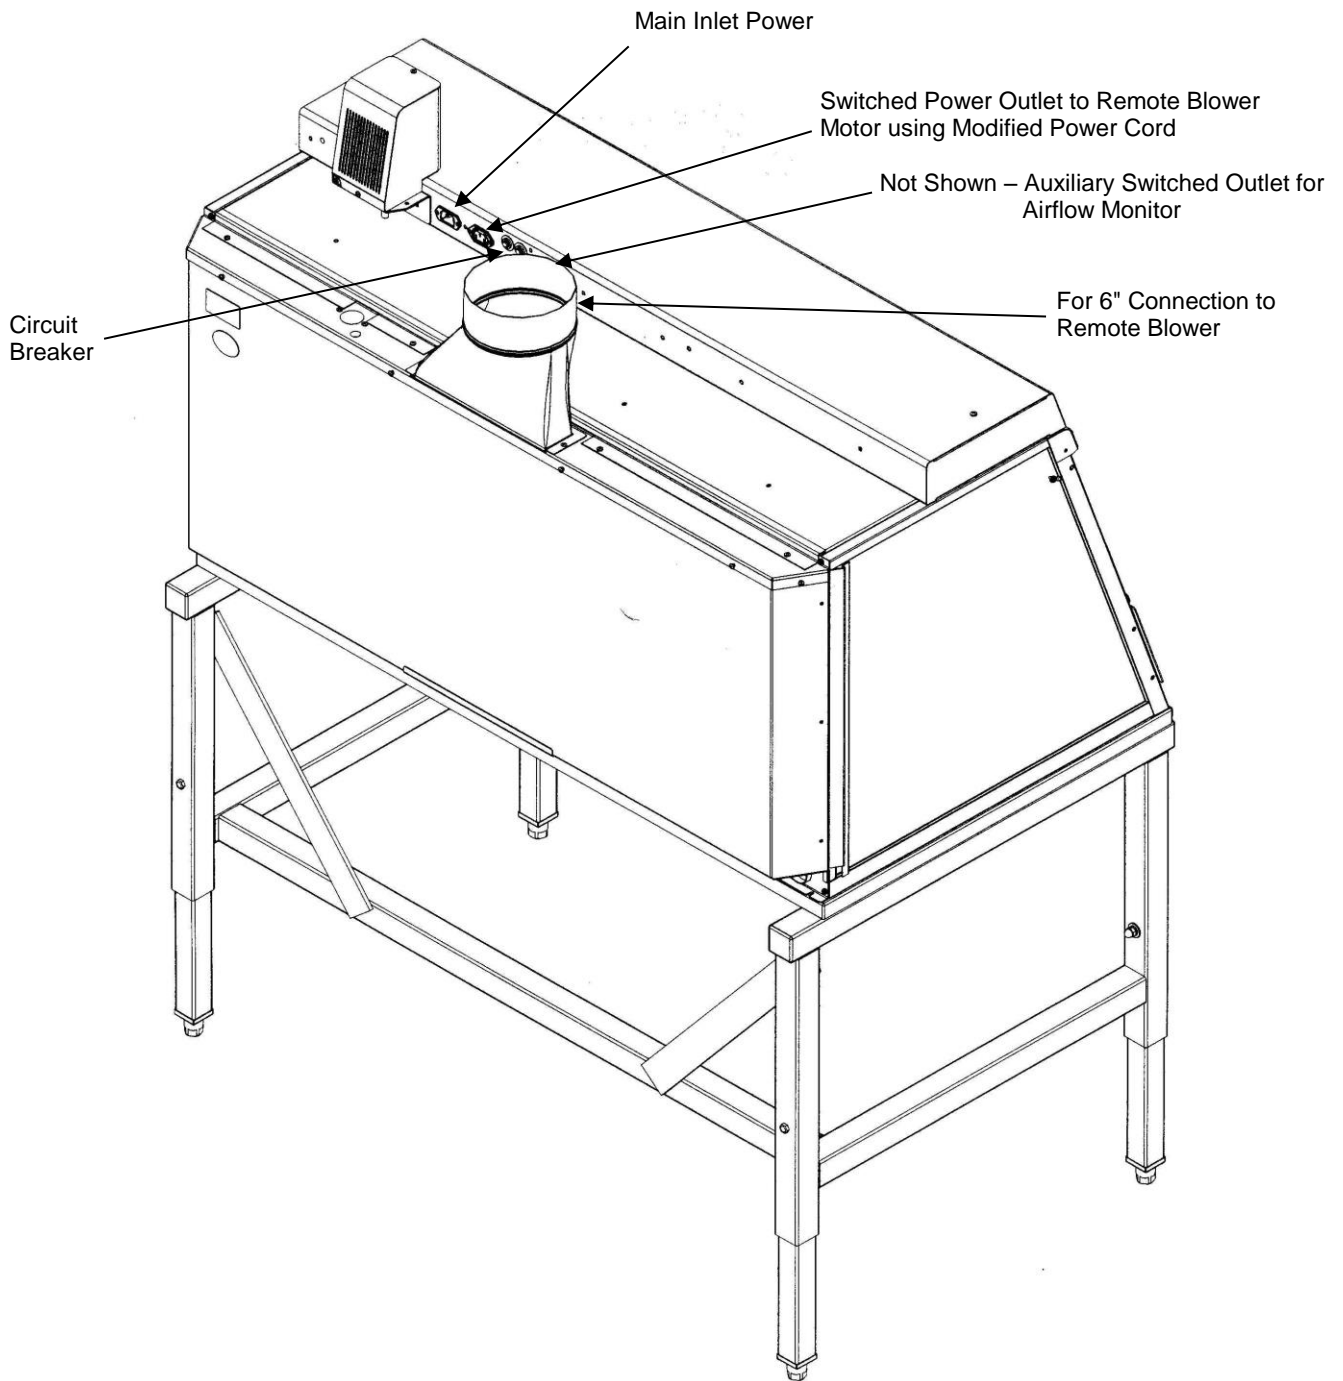

Figure 3-5
For the remote blower used for Protector Work Stations, follow the wiring diagram in Appendix C and wire the remote blower wires to the switched outlet on the back of the upper light control panel. These wires are switched by the blower switch. Refer to Figure 3-5.
The maximum circuit load for the blower is 6 amps. The lights and airflow monitor are powered from a standard duplex electrical receptacle located nearby for connecting the power cord. All wiring for the Protector Work Station should be performed by a licensed electrician and conform to local codes. In most cases, the remote blower Protector Work Station for use with a remote blower will require the use of an additional power cord routed from the switched power outlet on the back. See Figure 3-5 and power cord, item 24 in Figure A-2. Modify the power cord, item 24, in Figure A-2 for connection to the remote blower via a customer supplied junction box located nearby. The grounding connection shall not be made to the terminal box cover of the remote blower. The building electrical supply system for the remote blower should include overload protection such as a switch or circuit breaker in close proximity and within easy reach of the operator. The switch or circuit breaker shall be marked as the disconnecting device. Consult NEC-2002 for proper installation.